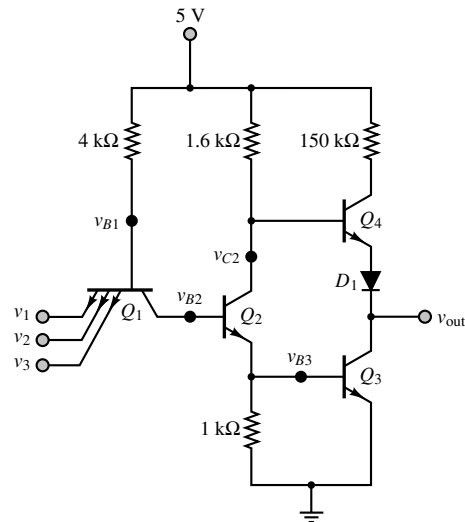

Figure P10.50
10.50 Figure P10.50 is a circuit diagram for a three-input TTL NAND gate. Assuming that all the input voltages are high, find v_{B1} , v_{B2} , v_{B3} , v_{C2} , and v_{out} . Also indicate the operating region of each transistor.